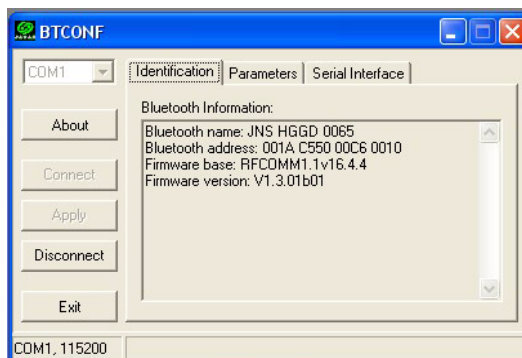

Figure 2-39. BTCONF Identification Tab
- Once the receiver and computer connect through BTCONF, the **Identification** tab (Figure 2-39 on page 79) displays the following information: